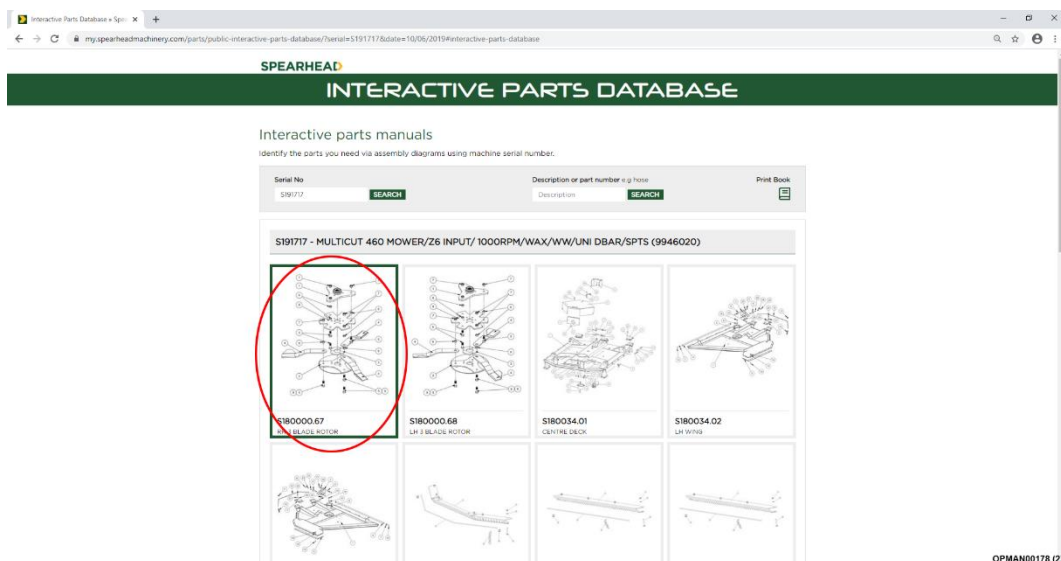

Figure 21 – Click On Assembly
7.1.1.3 After clicking on the serial number a full parts breakdown, specific to the machine serial number will appear showing the various parts and assemblies of the machine. Click on the specific assembly picture required; see Figure 21.